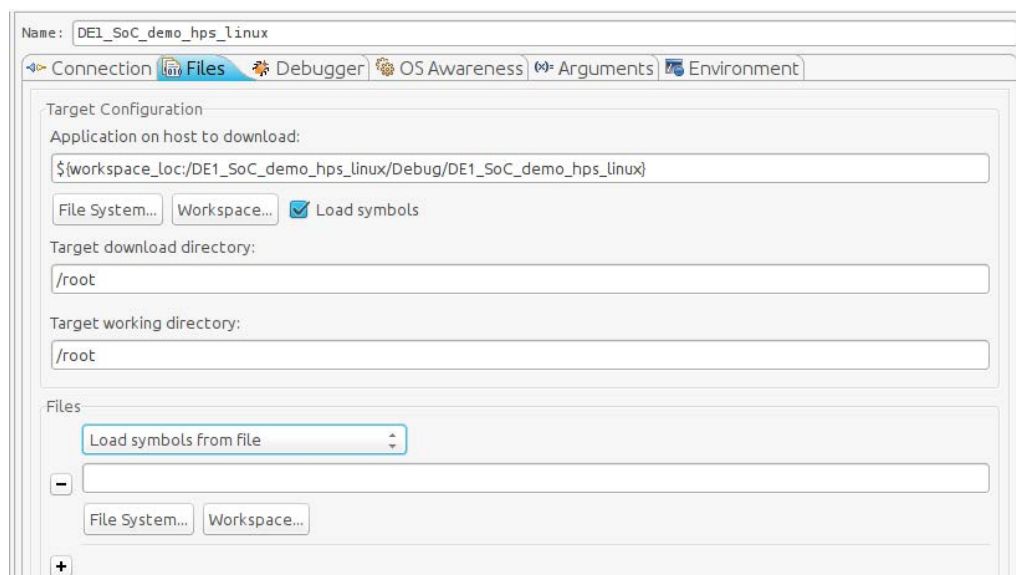

Figure 8-52. Debug Configuration “Files” Tab
- c. Set the “Target working directory” to “/root”. You should have something similar to Figure 8-52.